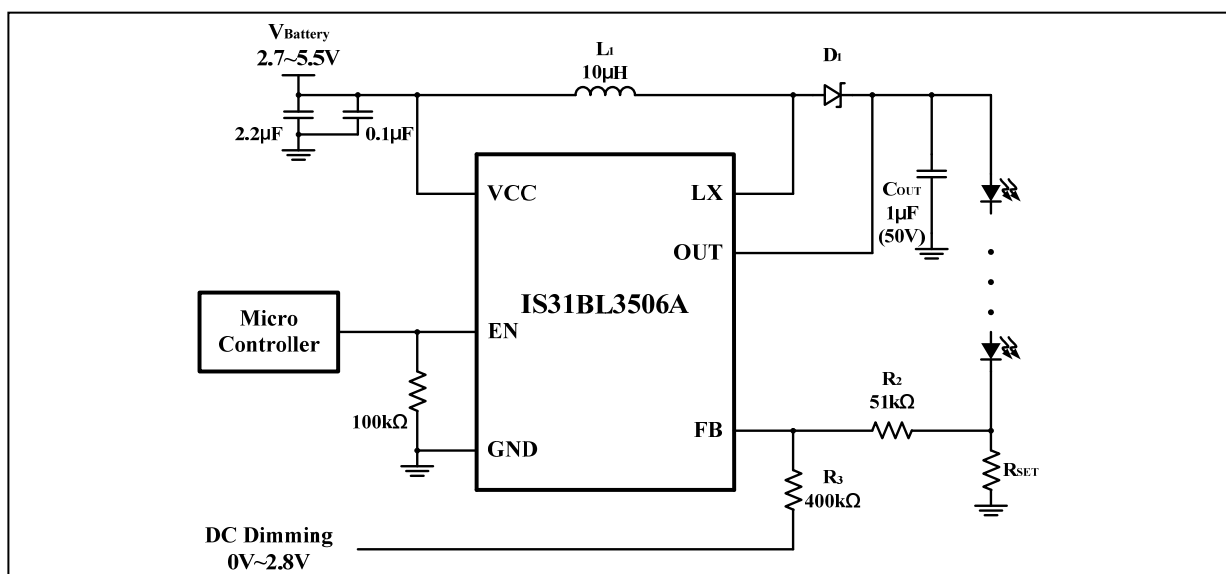

Figure 4 Constant output current with DC dimming input
The schematic of Figure 4 shows an example of using a DC input voltage at the FB pin to implement LED dimming. When the DC input voltage increases, the current through R_2 and R_3 increases producing an offset voltage across R_2 , thereby causing the LED current to be reduced. The LED current may be computed using the following equation, (3). V_{FB} is 0.3V (Typ.).